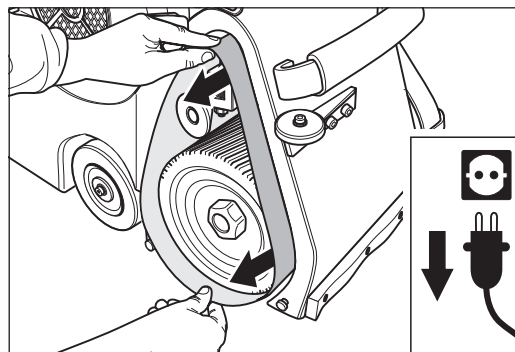

Fig. 67 Remove the sanding belt.
- 5 Remove the sanding belt from the tensioning roller and the sanding drum (fig. 67).